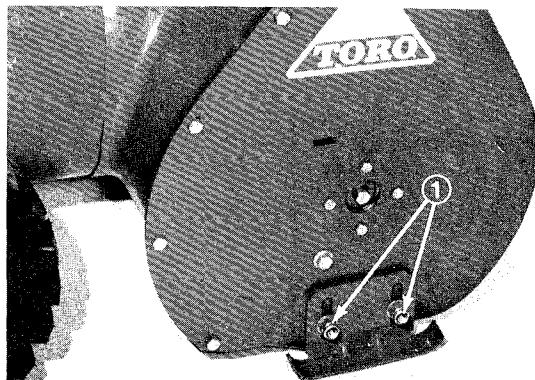

Figure 31
1. Move snowblower to a level surface. Next, loosen four flange nuts (Fig. 31) securing both skids to auger side plates. Skids must slide up and down.
4. Loosen four flange nuts (Fig. 31) securing both skids to auger side plates. Next, slide skids down as far as possible so auger is as far from the level surface as skid adjustment allows; then tighten flange nuts.